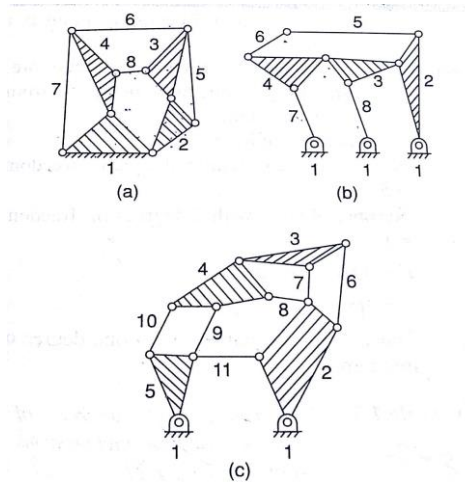

Figure.1
- Q1** (i) For the kinematic linkages shown in figure. 1 Calculate the following **15**